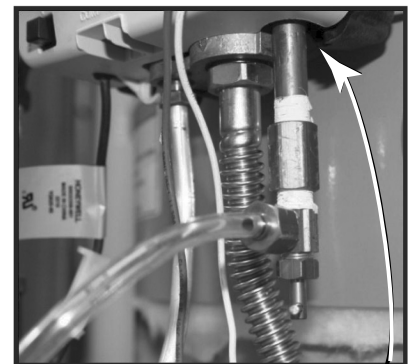

Figure 11.
- Manifold (main burner) gas pressure is measured at the pressure tap on the bottom of the gas control valve/thermostat. See Figure 9 and Figure 11. Use a 3/16" Allen wrench to remove the pressure tap plug, then attach the gas gauge.